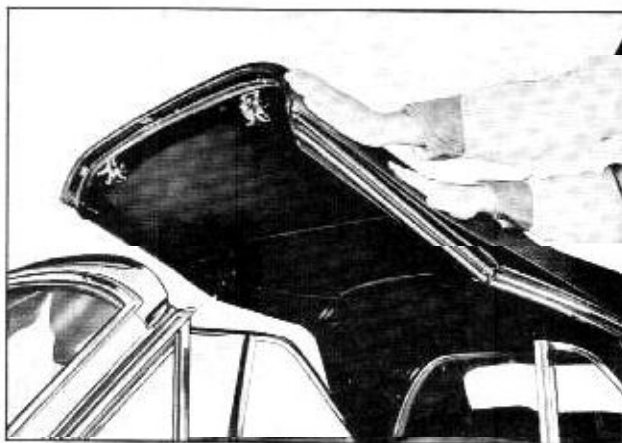

Fig. 15-76 Top Partially Raised
5. When top is approximately 12 inches away from windshield header, place hands on top assembly as shown in Fig. 15-76 and press down on top until guide studs on lock assembly engage striker holes.